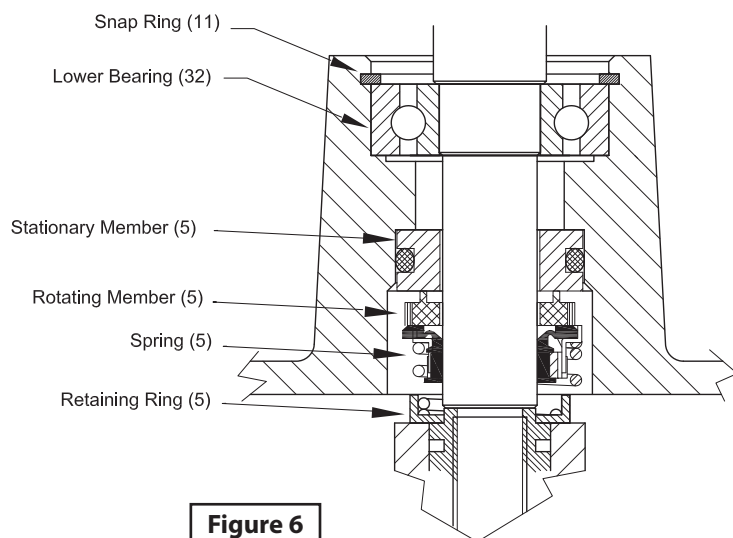

Figure 6
To examine or replace shaft seal (5), disassemble volute and impeller as stated. Remove retaining ring, spring and rotating member from shaft (see Figure 6). Inspect for signs of uneven wear pattern on stationary member, chips and scratches on either seal face. Replace the complete seal if any part is damaged.